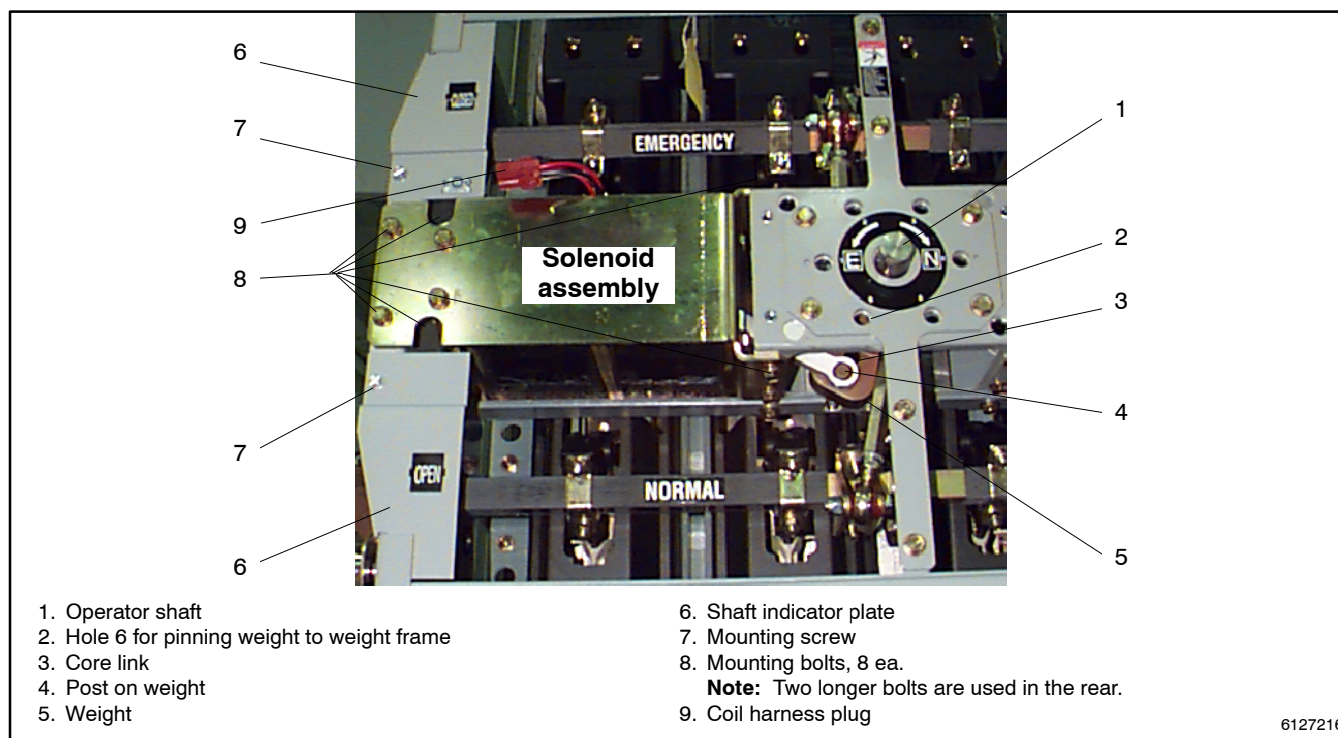

Figure 9-23 Location of the Solenoid Assembly and Related Parts in the Drawn-Out (Removed) Transfer Switch
The solenoid assembly is located in the left front of the transfer switch. See Figure 9-23.
2. Manually operate the switch to the EMERGENCY position. After the transfer switch is pulled out completely, use the maintenance handle (Figure 9-3) to turn the weight so that the core link is down, as shown in Figure 9-23 (Normal contacts are in the *OPEN* position). Refer to the operation and installation manual.